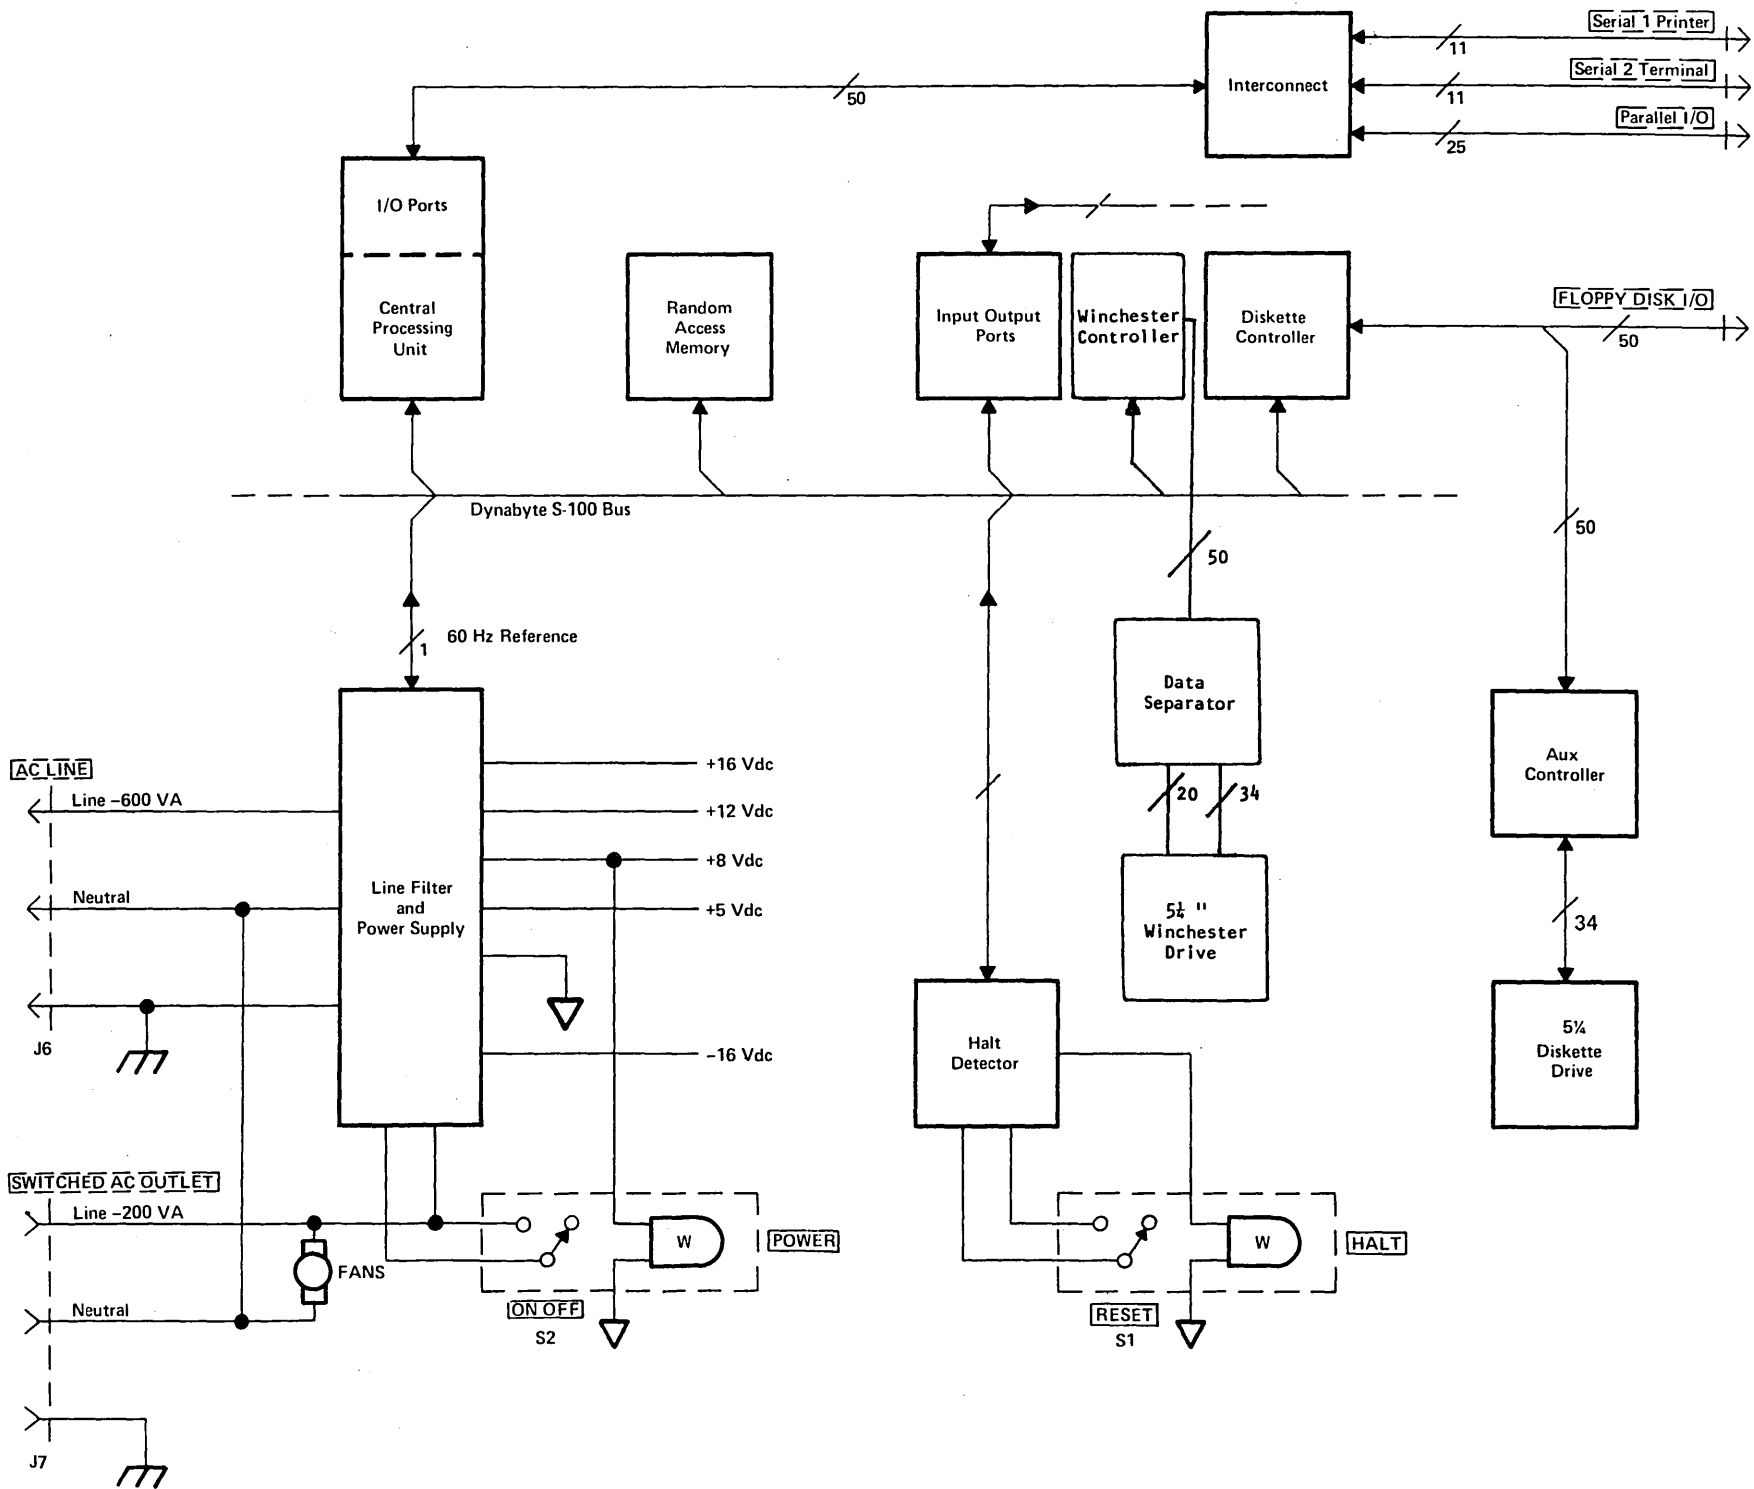

Figure 3-1 — 5505 Computer Functional Block Diagram
3.02 Figure 3-1 illustrates the 5505 computer in block diagram. It should be used in conjunction with the schematic diagrams in Part 7 to familiarize the user with the circuits. The 5505 Computer chassis can be divided into four logical sections: